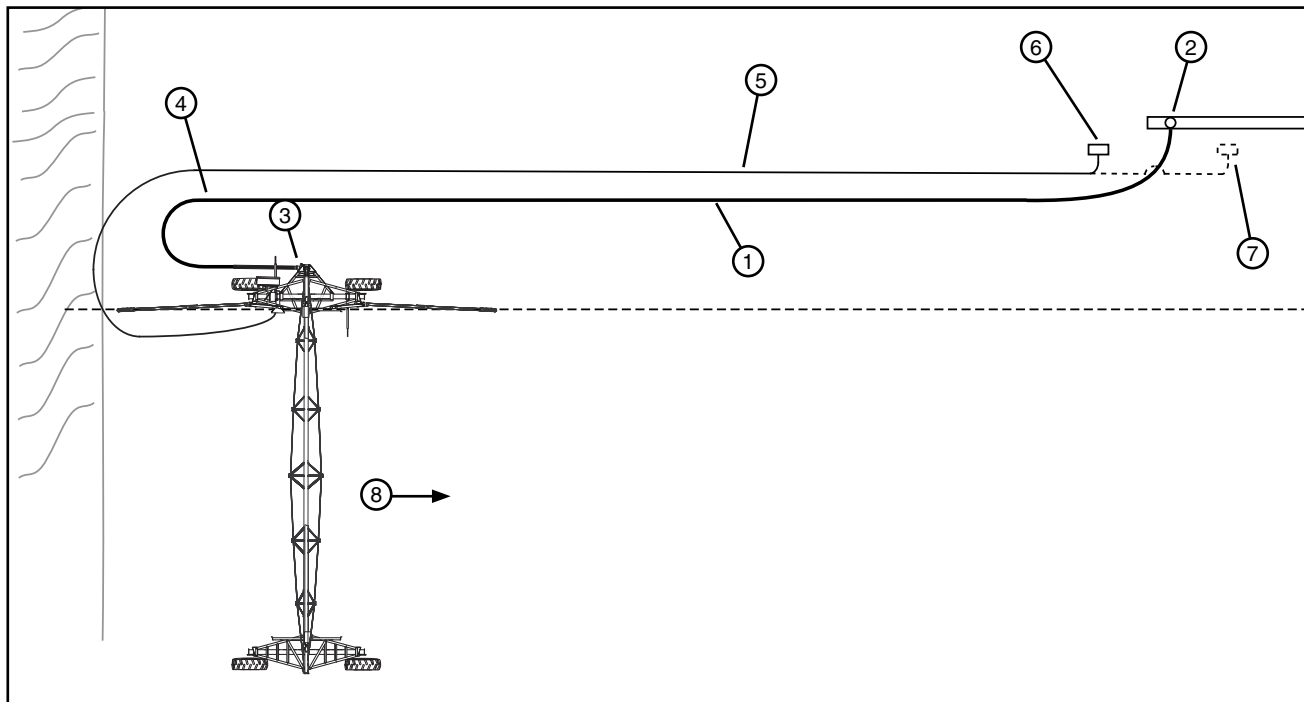

Figure 50-1 1. First Hose 4. Temporary Post (optional) 7. Alternate Power Pedestal Location
1. Connect the first hose to the pipeline shut off valve and linear cart swivel inlet, then latch in place. See figure 50-1.
- Temporarily installing a post approximately 6 ft (1.82M) behind the linear cart and on the pipeline side of the hose will aid in connecting the polyethylene hose to the linear cart inlet. See figure 50-1.
- a) Position the electric cord far enough away from the hose, so that the hose will not drag over it. When applicable, prevent interference between the electric cord and hose by positioning the electric cord over the top of hose. See figure 50-1.